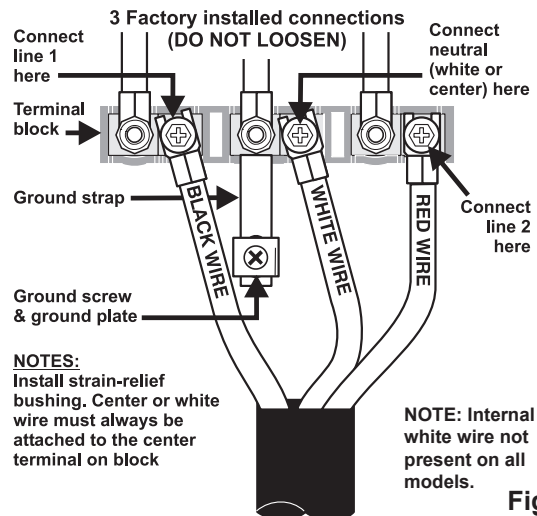

Fig. 13
5B. POWER CORD CONNECTIONS (3-Wire Connection Instructions For existing installations ONLY - Refer to Fig. 13).
2. Insert the end connectors for Line 1, Line 2 and Neutral and tighten securely to the terminal block (See Fig. 13). **IMPORTANT NOTE: DO NOT LOOSEN** the factory installed nut connections which secure the range wiring to the terminal block. Electrical failure or loss of electrical connection may occur if these 3 nuts are loosened or removed.
A ground strap is installed on this range which connects the center terminal of the terminal block (Neutral) to the range chassis. The ground strap is connected to the range by the center, lowest screw (See Fig. 13). The ground strap must not be removed unless National, State or Local Codes do not permit use of a ground strap.